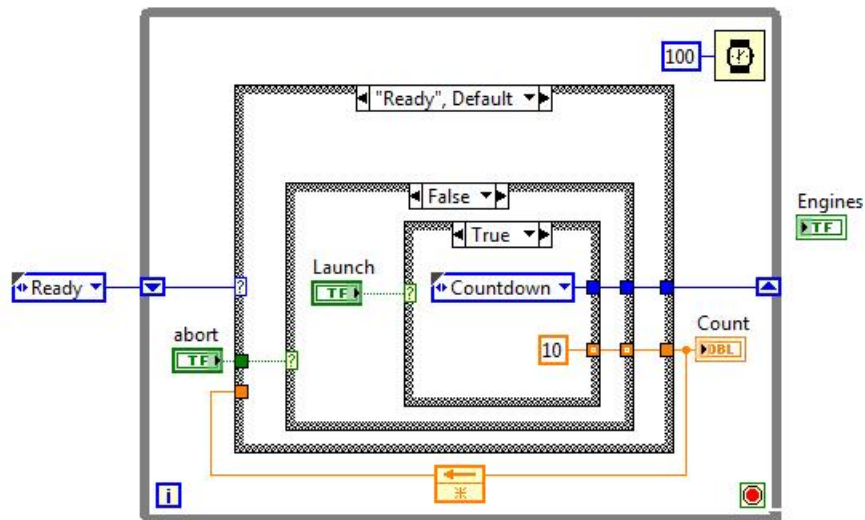

FIGURE 2.9 Wiring the Ready state to handle the Launch button being pressed.
11. Switch the inner case to the False value (Abort button not pressed), and wire it as shown in Fig. 2.9. The constant loads the Count variable with the number of seconds we will count down for. Note that some of the output tunnels that the orange wire passes through have a little white dot in the center. These have been set to **Use Default If Unwired** (via a right-click, of course). *NEVER* do that with the tunnels connected to the state control shift register! You always want to be controlling what state the program goes to next.